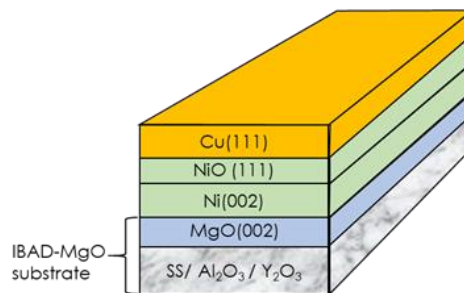
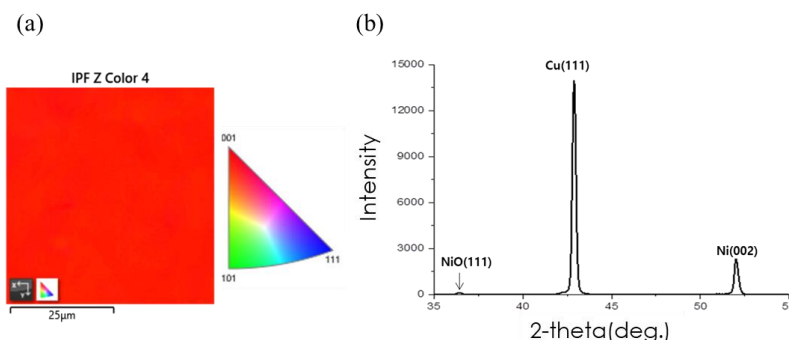

Figure 1: Schematic layout of architecture of Cu substrate with textured crystal planes..
Figure 2: EBSD orientation map (a) of Ni film layer and 2-theta XRD pattern (b) of Cu film layer.
In this study, we aimed to fabricate a substrate featuring highly textured Cu(111) crystal planes on its top layer, utilizing a flexible template tape with a layered structure of MgO/Y₂O₃/Al₂O₃/Stainless steel. The MgO layer was prepared using the Ion Beam Assisted Deposition (IBAD) method [1]. Initially, a Nickel (Ni) film was deposited onto the IBAD-aligned MgO film, which has a (001) crystal plane orientation, via DC sputtering. This Ni layer was then converted into a NiO layer through a surface oxidation heat treatment [2] conducted between 300 and 500°C. Subsequently, a Cu film was deposited onto the NiO layer by DC sputtering. Figure 1 illustrates the schematic layout of our substrate's final architecture, while Figure 2 presents the EBSD map of the Ni layer (a) and the 2-theta X-ray diffraction pattern of the final Cu layer (b). The EBSD analysis indicated that the Ni film maintained a singular (001) crystal orientation, aligning parallel to the MgO layer and suggesting growth to the single-crystal level. Results from section (b) of Figure 2 demonstrate that the NiO layer, formed through the oxidative annealing of the Ni thin film, developed a (111) orientation. Subsequently, the deposited Cu thin film exhibited epitaxial growth while maintaining the (111) crystal orientation. A more comprehensive presentation of these results will be provided at the upcoming conference.